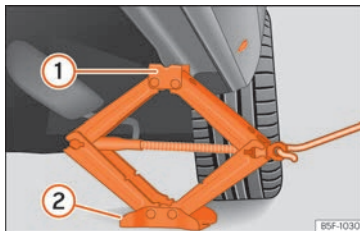

Fig. 47 Cross member: positioning the jack on the vehicle.
- Turn the jack crank handle, located below the strut support point, to raise it until the tab ① »» » **Fig. 47** is below the housing provided.
- Align the jack so that tab ① “grips” onto the housing provided on the strut and the mobile base ② is resting on the ground. The base plate ② should fall vertically with respect to the support point ①.